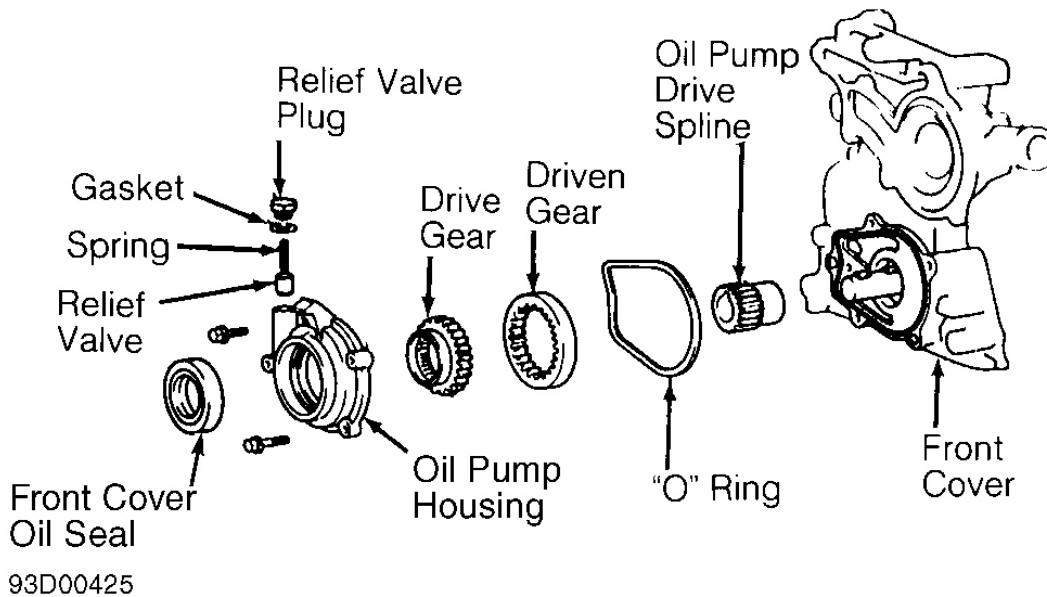

Fig. 20: Exploded View Of Oil Pump & Components
3. Remove A/C compressor with hoses attached and secure aside (if equipped). Remove A/C compressor bracket. On all models, remove retaining bolts, oil pump and "O"ring from front cover. Disassemble oil pump components. See Fig. 20 .